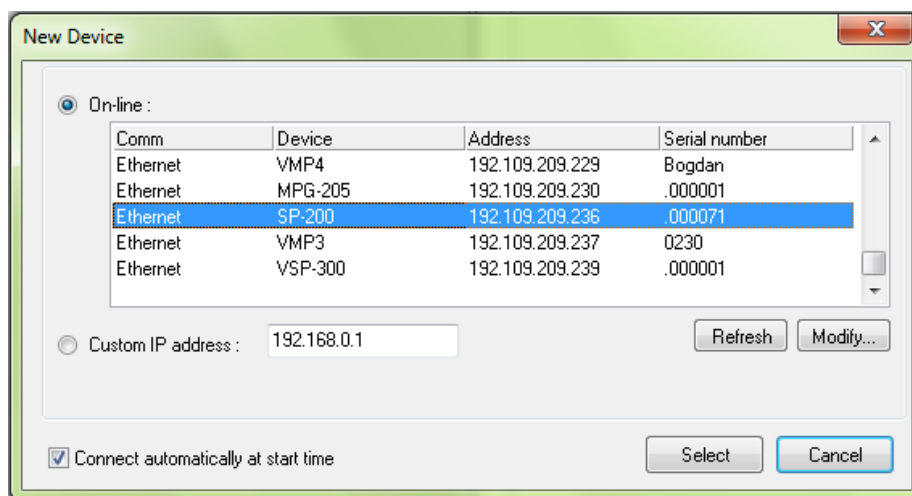

Fig. 29: “New Device” window to select and add an instrument to the current devices.
- 3) The window shown in Fig. 29 below appears. Click on “**Refresh**” to see the instruments present on your network.